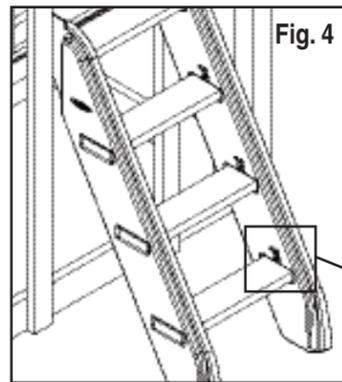

Fig. 4
- Make sure that all the standard steps are flush with the outside sides of the Climbing Steps Assembly. Secure each step to the side rails using two #14 x 1 1/4" pan head screws for each step as shown. (Fig. 4)
- Make sure that all standard steps are flush with the outside sides of the Climbing Steps Assembly. Secure each step to the side rails using two #14 x 1 1/4" pan head screws for each step as shown. (Fig. 4)